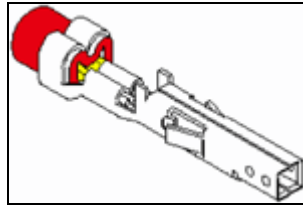

Figure 6: MOLEX pin
- o Properly strip and crimp the pin as depicted in Figure 6 Before inserting pin into connector.